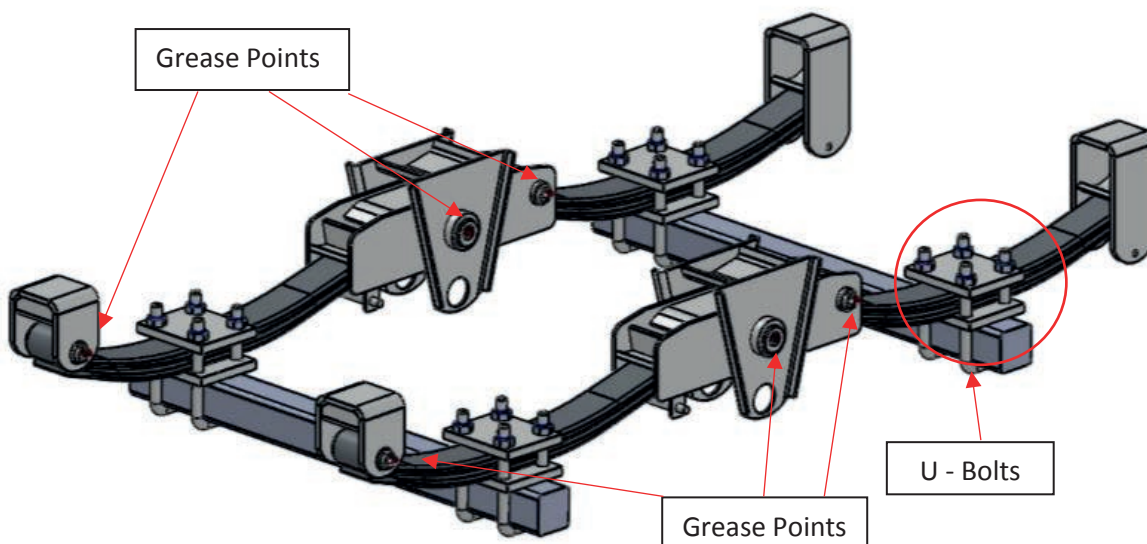

Figure 22 Showing the Service areas on Slipper and Eye Suspension
In order to conduct this service please follow the following procedure whilst referring to Figure 22
1. Lubrication should be applied to the 6 grease points identified in Figure 22.